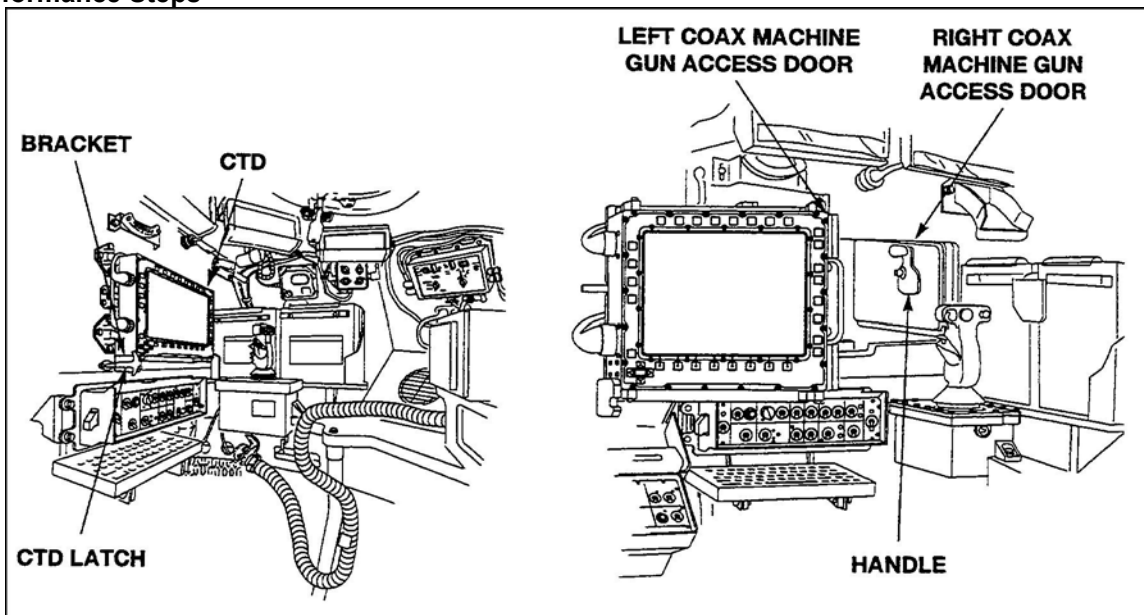

Figure 2. CTD latch and access doors.
2. Open the coax machine gun access doors (Figure 2).